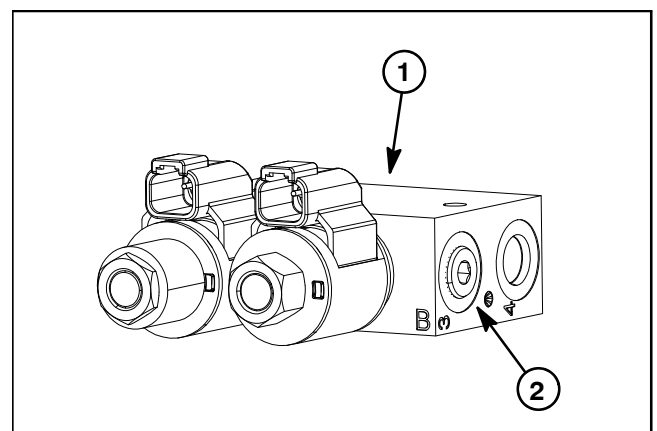

Figure 38
6. Thoroughly clean deck lift manifold around the plug in port 3 on rear of the deck lift manifold (Fig. 38). Remove plug from deck lift manifold port 3.